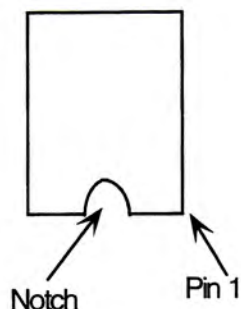

Figure 1 - Locating pin 1
**Caution** - The DP/2 O.S. EPROMs should always be justified to pin 1 on the chip and the socket (see Figure 1).